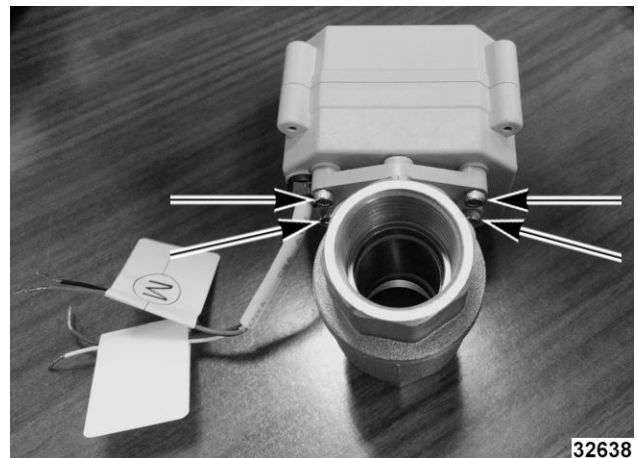

Fig. 38
- Remove 2.5mm screws (Fig. 38).